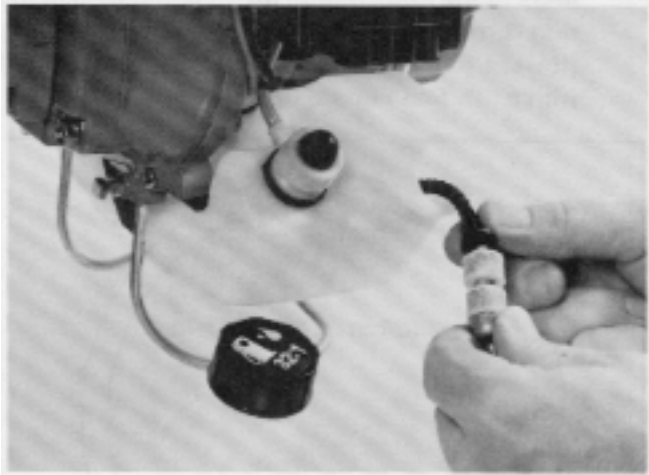

Figure 102
7. Replace the fuel strainer on the pick-up tube inside the fuel tank. See Figure 102.